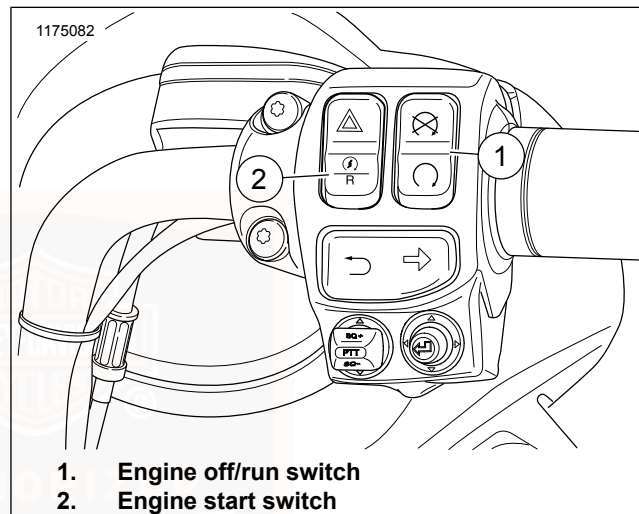

Figure 45. Right Handlebar Controls (typical)
2. Set the OFF/RUN switch to RUN. See Figure 45.